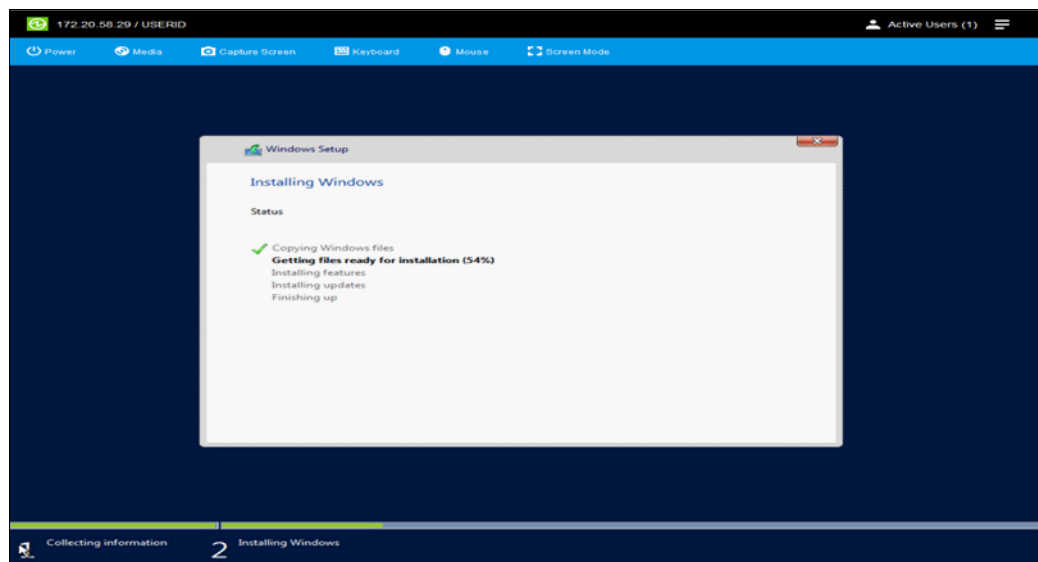

Figure 6-38 OS Windows installation
13. The installation will continue after the drivers are loaded as shown in Figure 6-38.